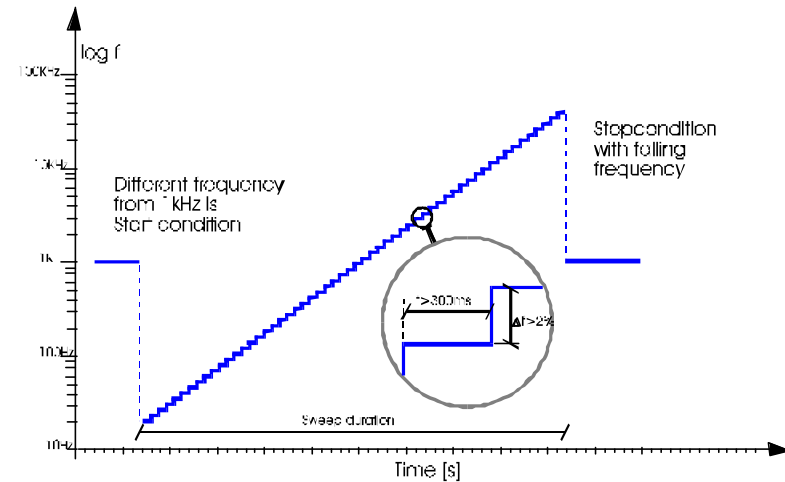

Fig. 24 Tape Sweep
10. Every abrupt decrease of the frequency during the sweep recording is interpreted as STOP command (see Fig. 24).